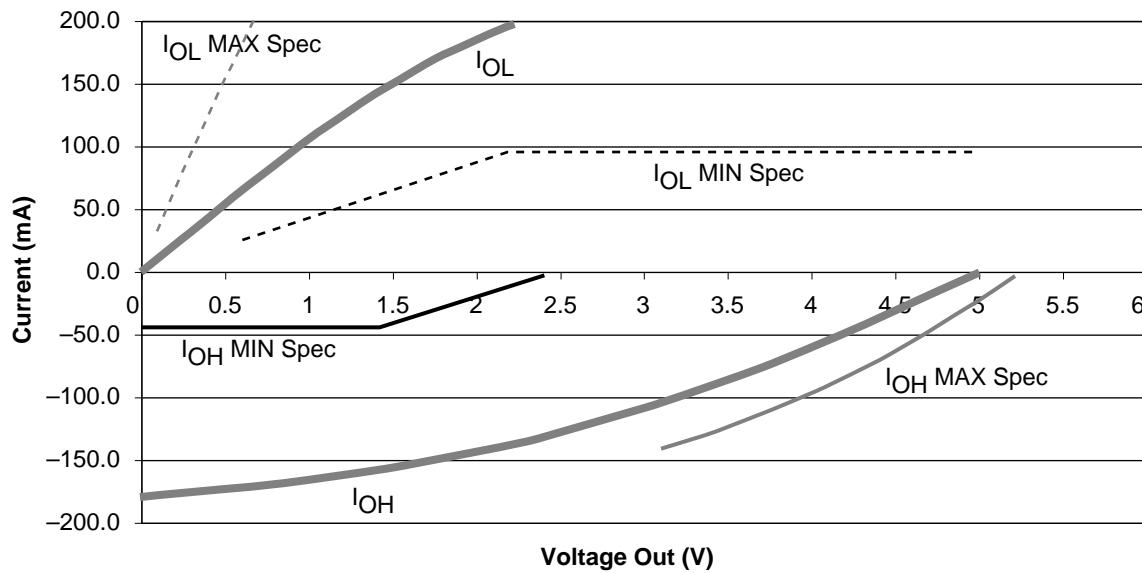

Figure 13 • 5V PCI V/I Curve for SX-A Family
1. Refer to the *V/I* curves in Figure 13 on page 18. Switching current characteristics for REQ# and GNT# are permitted to be one half of that specified here; i.e., half size output drivers may be used on these signals. This specification does not apply to CLK and RST#, which are system outputs. "Switching Current High" specifications are not relevant to SERR#, INTA#, INTB#, INTC#, and INTD#, which are open drain outputs.
3. Maximum current requirements must be met as drivers pull beyond the last step voltage. Equations defining these maximums (A and B) are provided with the respective diagrams in Figure 13 on page 18. The equation defined maxima should be met by design. In order to facilitate component testing, a maximum current test point is defined for each side of the output driver.
Figure 13 shows the 5V PCI V/I curve and the minimum and maximum PCI drive characteristics of the SX-A family.